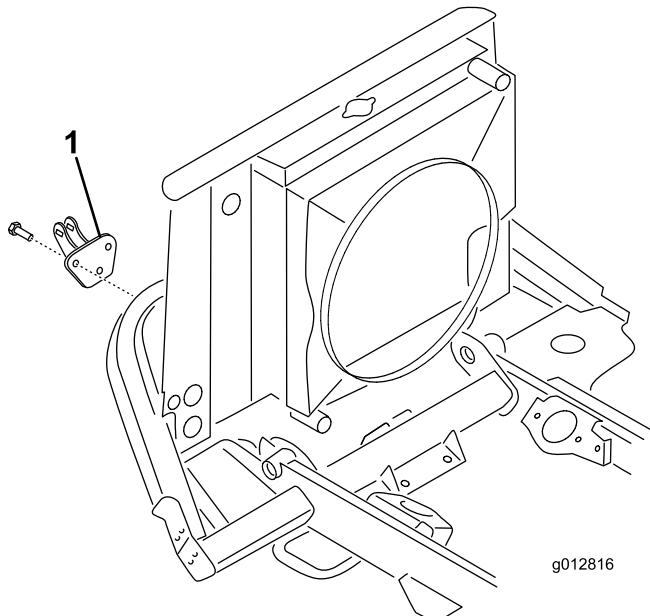

Figure 8
10. Secure the link mount to the rear bumper bracket with 3 screws (3/8 x 1 inch). Position the link mount as shown in Figure 8.